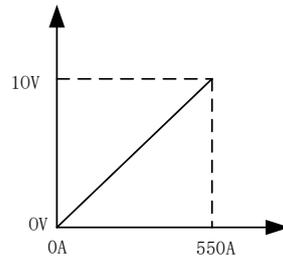

Figure 5-12 Corresponding relation of given current
2. Corresponding relation of given current is shown in Figure 5-12.